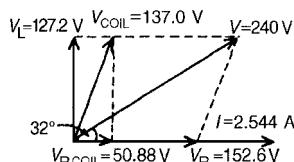

Figure 15.9
- (f) For the phasor diagram, shown in Fig. 15.9, $V_L = IX_L = (2.544)(50) = 127.2 \text{ V}$.
The 240 V supply voltage is the phasor sum of V_{COIL} and V_R as shown in the phasor diagram in Fig. 15.9.